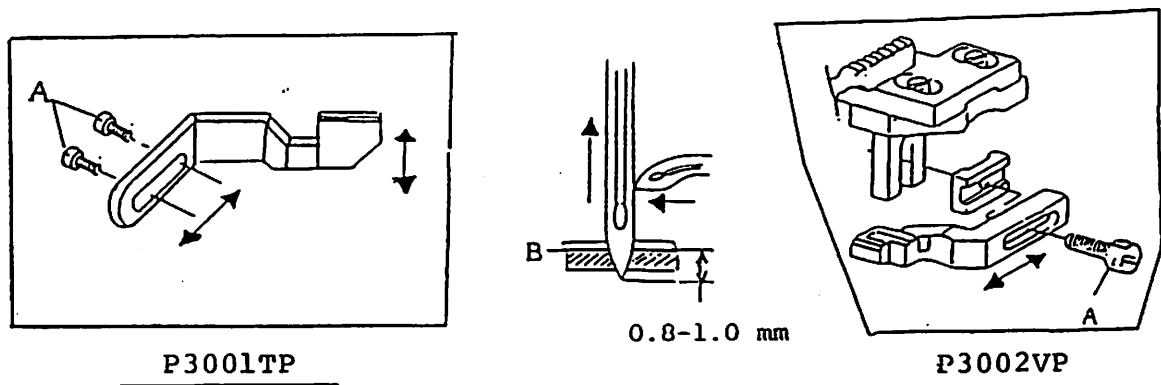

Fig. 6
8. Positional Adjustment of Needle Guard (Refer to Fig. 6.)
Adjust so that the top end B of the needle guard shown in Fig. 6 shall be 0.8 to 1.0 mm above the point of the